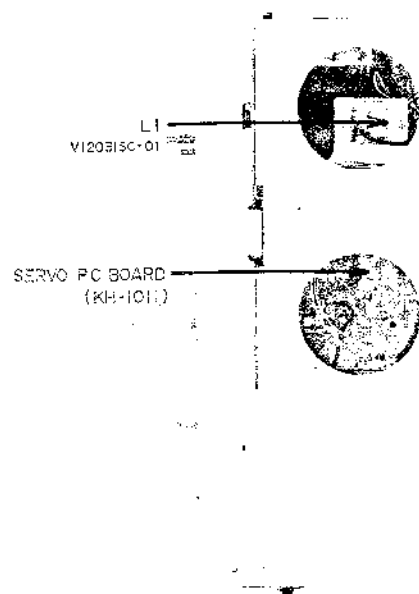

Fig. 8
- 3) Adjust the core of Coil L1 (V12031SC-01) shown in Fig. 8 to obtain a Frequency Counter indication of 500 Hz  $\pm 1\%$ .